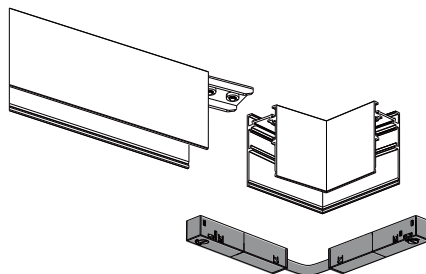

Figure 11
6. Right angle continuous row mount can be done by connecting the two tracks with LAA-SUSSUR-LTRKIT01. Tighten the screws on LAA-SUSSUR-CM01 with hex key provided. Also, insert joint connector LAA-U-CE02 (Figure 11). Turn the lock from OFF to On position with flat head screw driver.